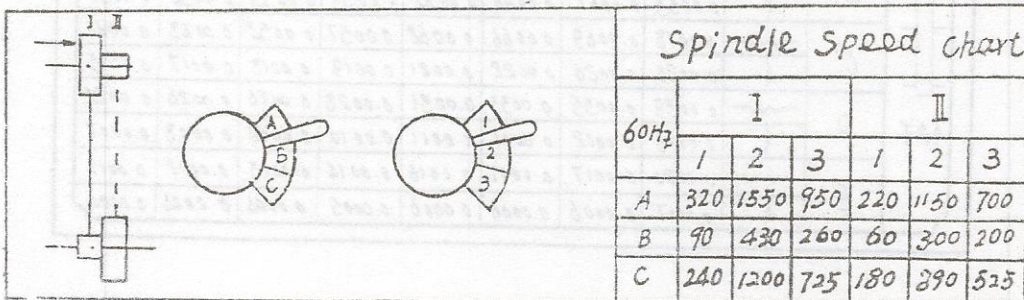

Fig. 14 Spindle Speed Chart
- \* With the help of lever (1), (2) and v-belts the headstock can provide 18 or 9 step speeds from 60 to 1500 r.p.m as shown in "spindle speed chart" located on the front side of headstock (see Fig. 14)
- \* Starting & stopping of spindle can be made merely by the starting lever (11). Moving the lever (11) up, the spindle will be counter-clockwise rotation; starting lever (11) down, the spindle will be reverse rotation.